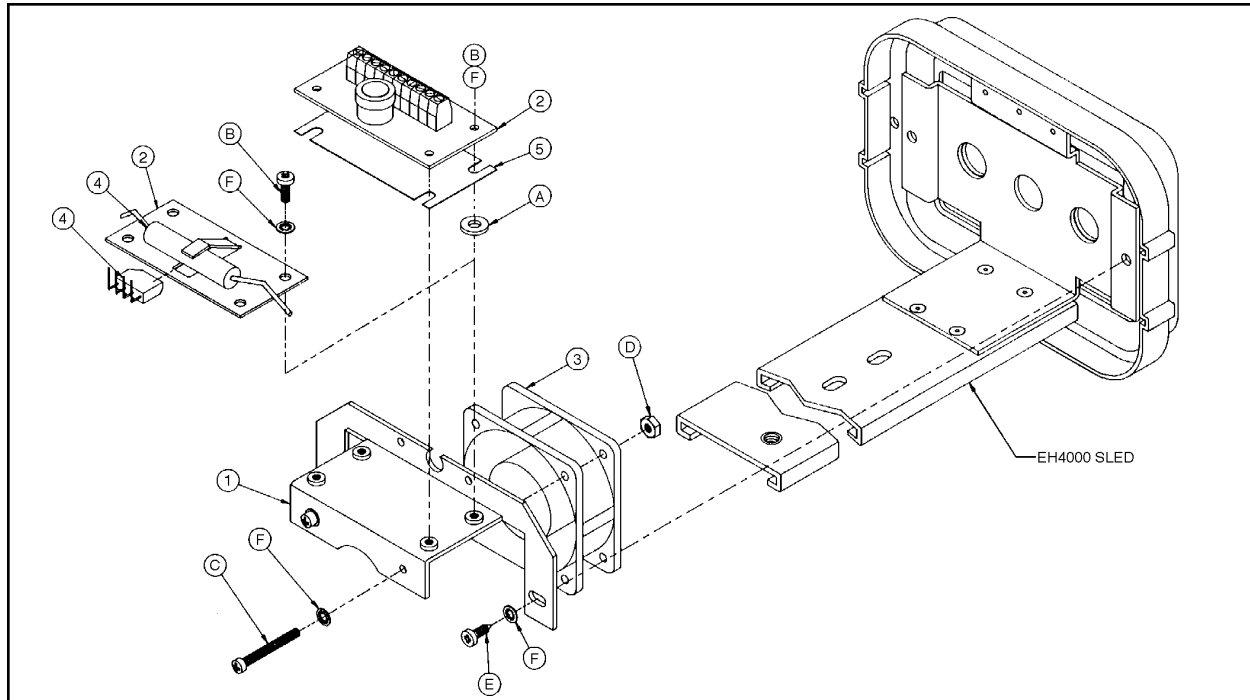

Figure 1. Blower Kit Installation
To install the BK4000/BK4024/BK4220 perform the following steps (refer to Figure 1):
3.1 PARTS LIST (Figure 1.)